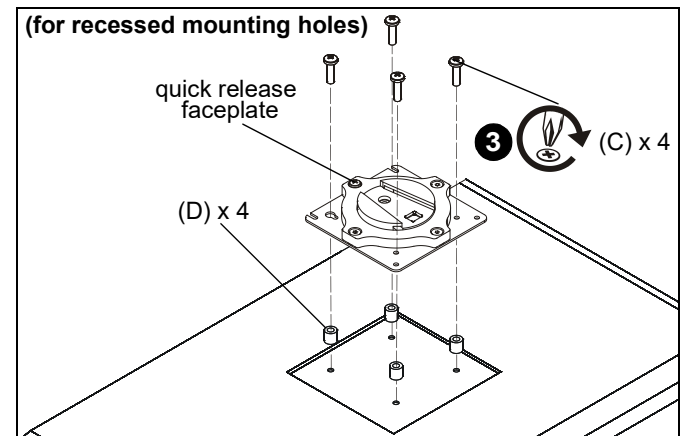

Figure 12
- Place four spacers (D) on top of mounting holes on back of display. (See Figure 12)
- Using Phillips screwdriver, carefully install four M4x20mm screws (C) through corresponding holes on faceplate, spacers (D) and into the mounting holes on the display. (See Figure 12)